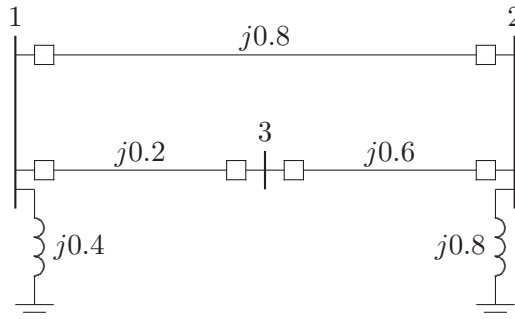

FIGURE 77
9.9. The bus impedance matrix for the network shown in Figure 77 is given by